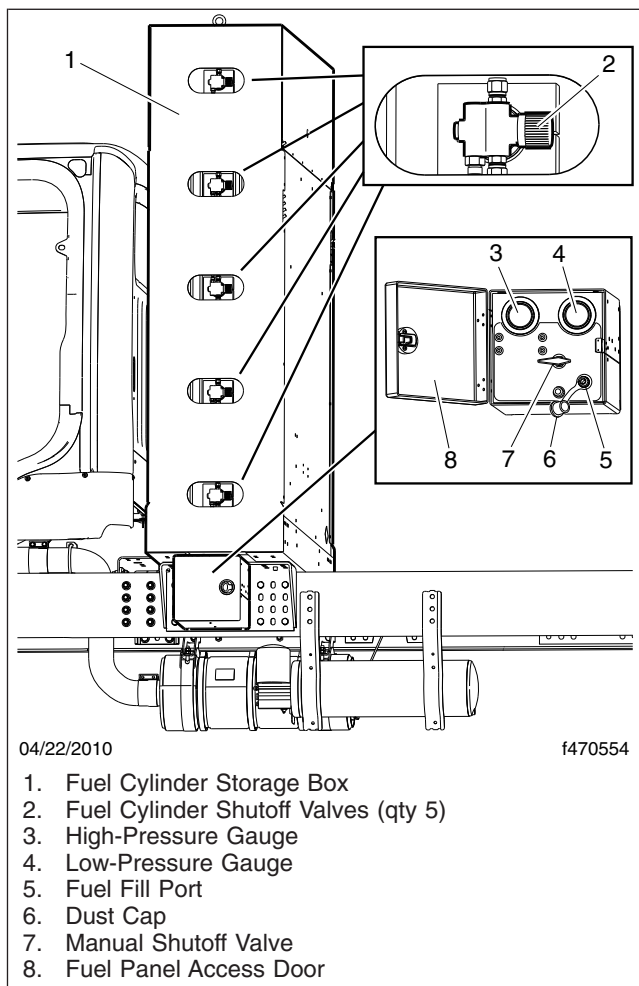

Fig. 19.1, CNG Fuel Cylinder Storage Box (5-cylinder system shown)
2. Ensure all fuel cylinder shutoff valves are open. See **Fig. 19.1**.